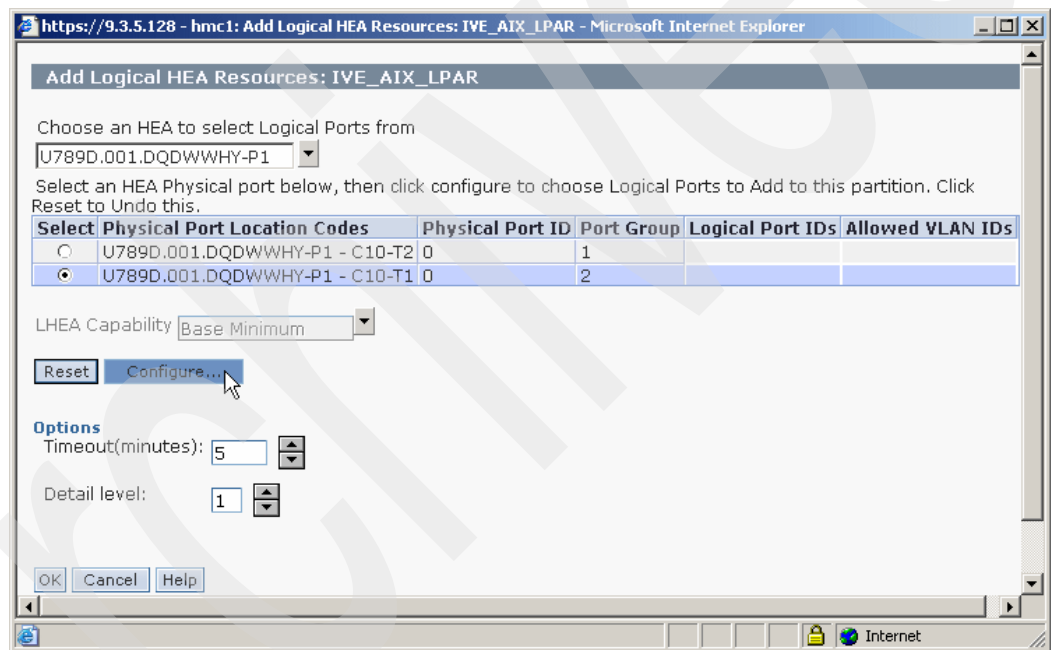

Figure 4-8 Second step to add a logical port
2. In the new window Add Logical HEA Resources, as shown in Figure 4-8: